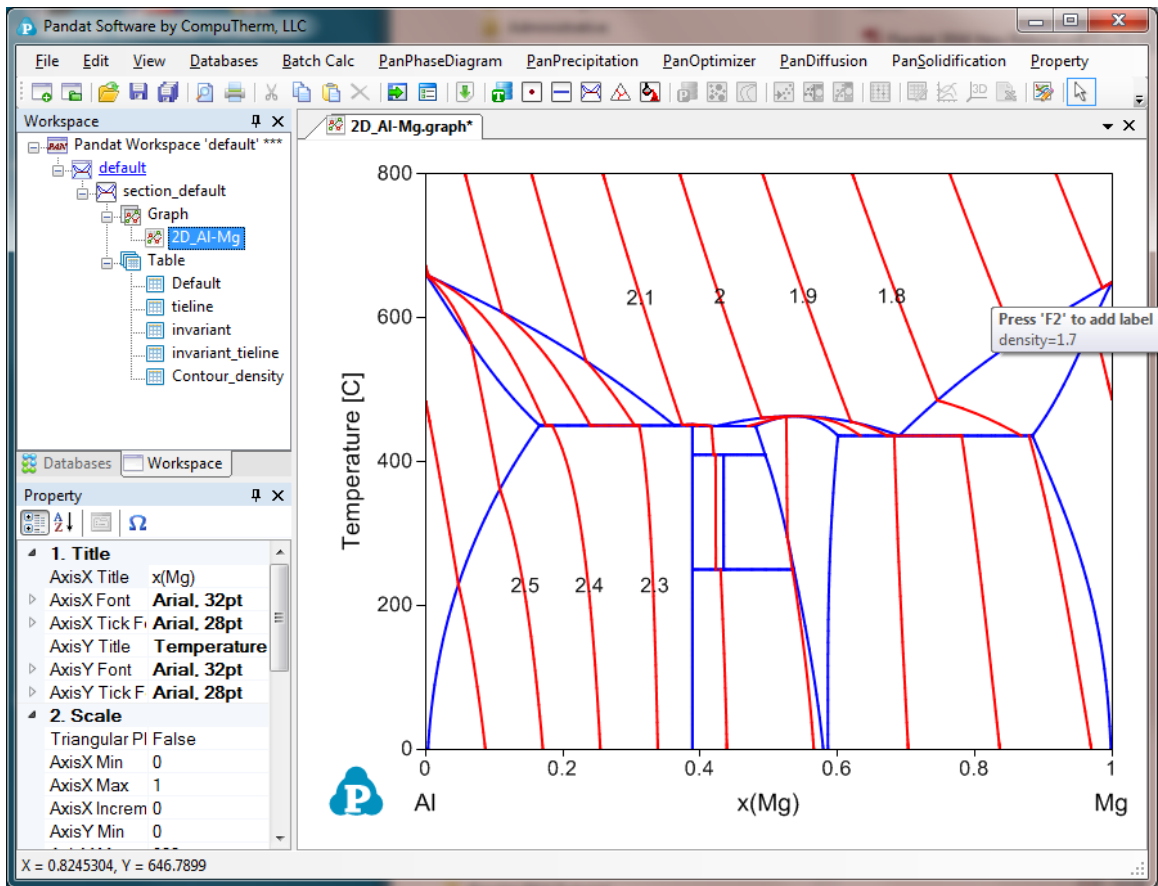

Figure 1.14.3: Density contour diagram for the Al-Mg binary system
- Figure 1.14.3 shows the density contour diagram, i.e., plotting density contour lines on top of the Al-Mg binary phase diagram. The density on the same red line is constant;